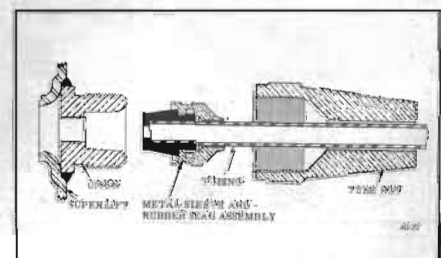

Figure 40-25—Fitting Nut and Seal
e. Flexible air lines are used throughout the system. The line is 1/8" diameter tubing. Each fitting consists of a rubber seal, metal sleeve and nut. See Figure 40-25. These parts are intended
1. Preassemble metal sleeve and rubber seal. See Figure 40-25.